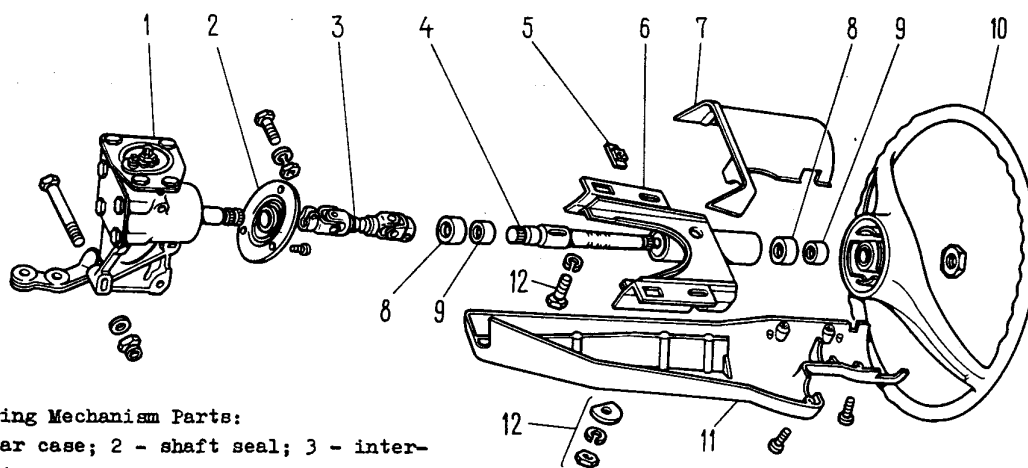

Fig. 5-3. Steering Mechanism Parts:
Unscrew the bolts of bracket 6 (Fig. 5-3) and take off the steering shaft complete with the bracket.
**Installation.** Secure seal 2 (Fig. 5-3) on the dash panel, install the steering gear case on the body sidemember, without screwing home the nuts of the case bolts.
Examine fixing plates 5 (Fig. 5-3) and replace them, if distorted.